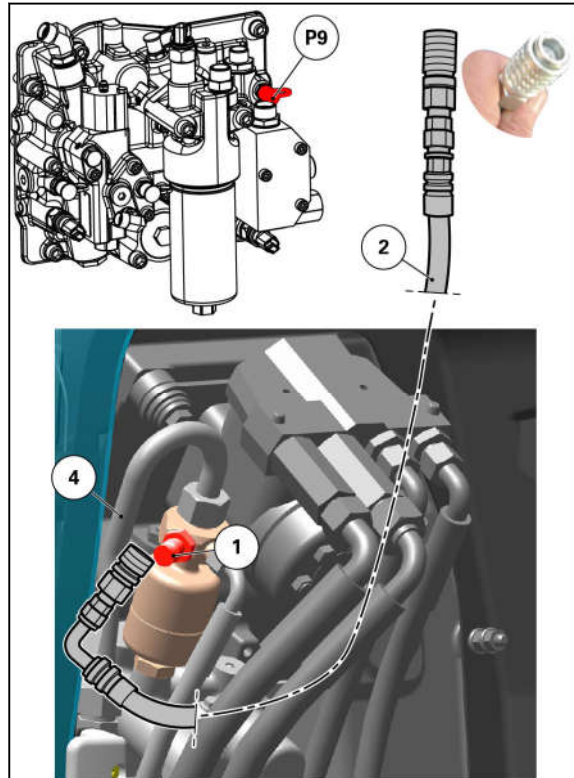

Fig. 1
1. Join the connector (P9) to the connector (1) with a makeshift hose (2) fitted at each end with a female connector ref. 3582045M1 see Fig. 1 .
2. Using a clamp fitted with protective jaws, pinch the return hose (4) without flattening it excessively.